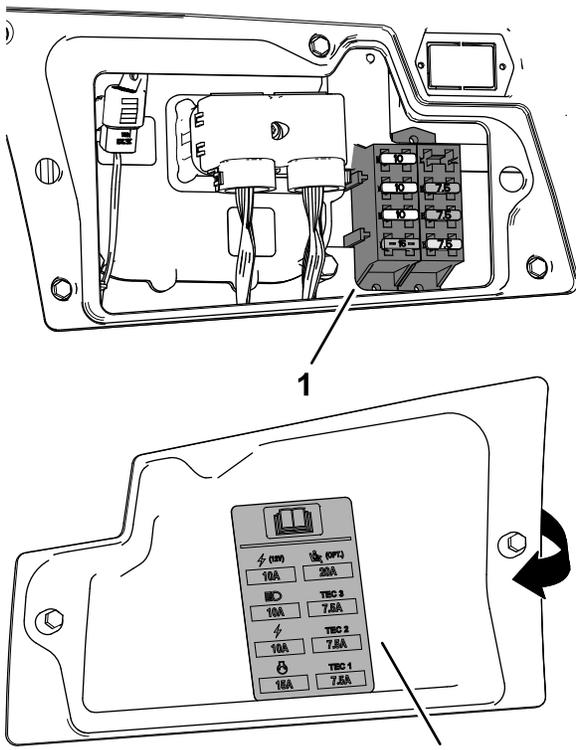

Figure 98
- Replace the open fuse (Figure 98) with the same fuse type and amperage rating.